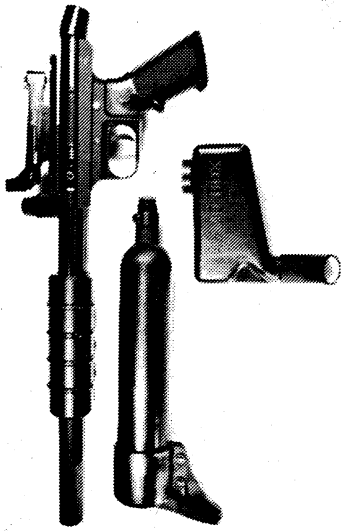

Figure 1
4. APEX ELITE should appear as in Figure 1.